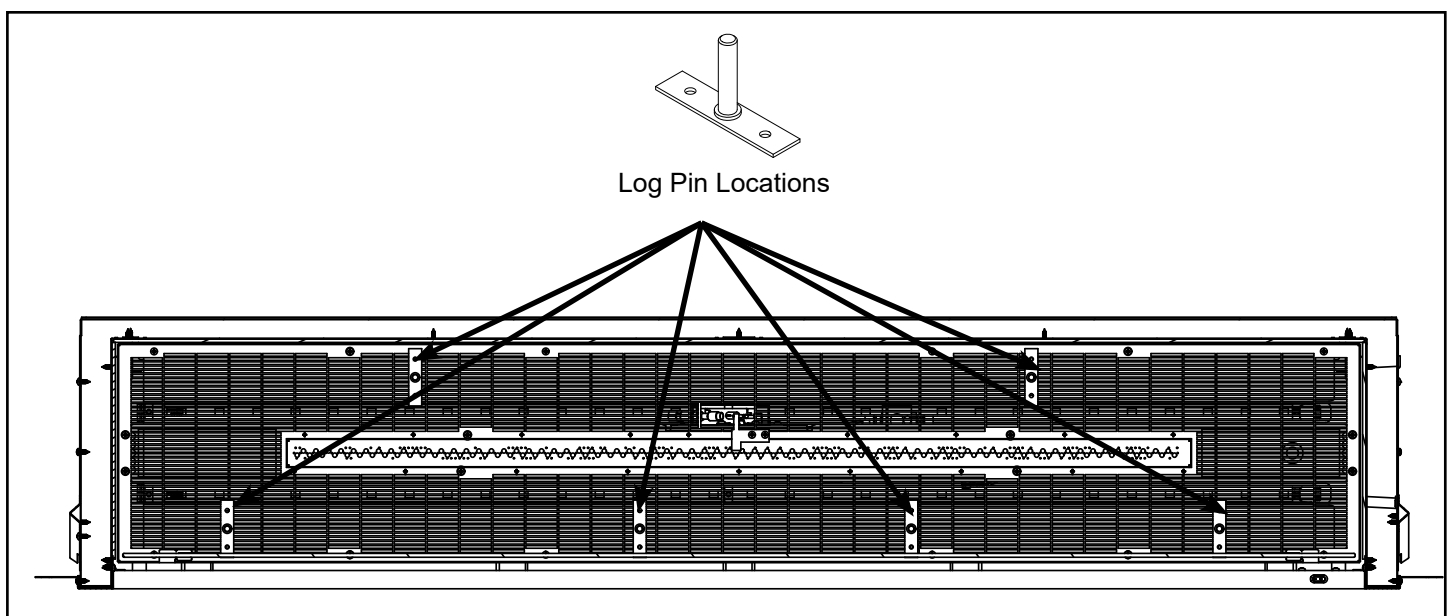

Figure 7.7 – Log Pin Placement for AVFL60N(P)IF AND ODLANAIG-60
1. Mount the six log support pin brackets using mounting holes and screws provided in locations indicated in Figure 7.7 for the front logs and rear log. Only one hole of the pin bracket will be used to secure the pin to the